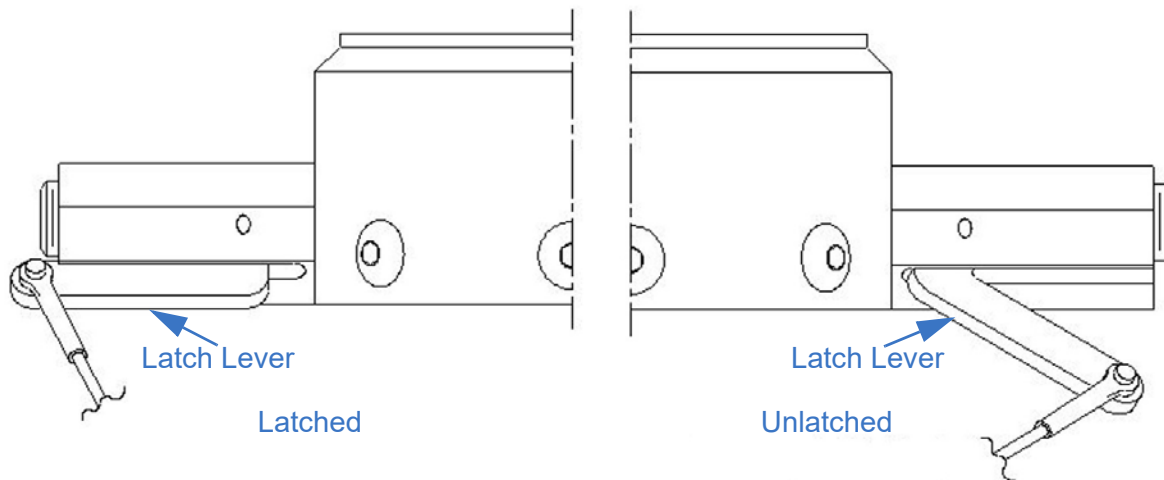

Figure 6-5 Latch Lever Positions
9. Pressurize the mast while continuing to hold down the T-Handle. While pressurizing the mast, you should feel the locks unlatch without needing to apply substantial pressure. Observe the latch levers (Figure 6-5) to confirm they have unlatched. When unlocked, they should both be pointing down at about a 45° angle from the collar ears. It is possible for the latch levers to be at a slight angle and still be latched.